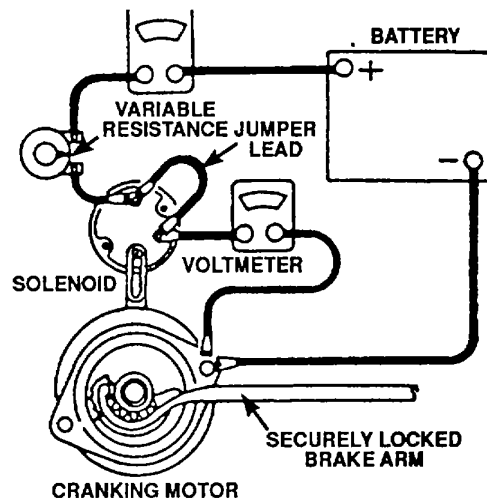

Figure 4-59. Locked Rotor Test Connections
1. Perform locked rotor test as follows (figure 4-59).